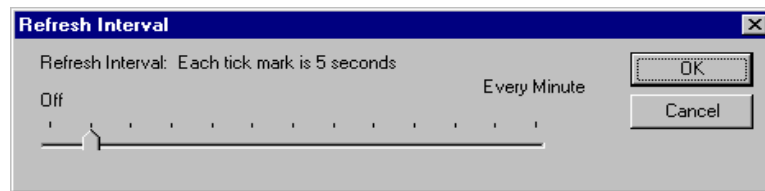

Figure 3-9. Refresh Interval screen
1. Click on the **Refresh Interval** bar at the top of the **IP Trunk Current Traffic Statistics** screen (Figure 3-9).
2. When the **Refresh Interval** screen appears (Figure 3-9), adjust the interval marker. Each tick mark represents five (5) seconds, with a maximum interval of one (1) minute. To turn the **Refresh Interval** off, move the marker to **Off**.